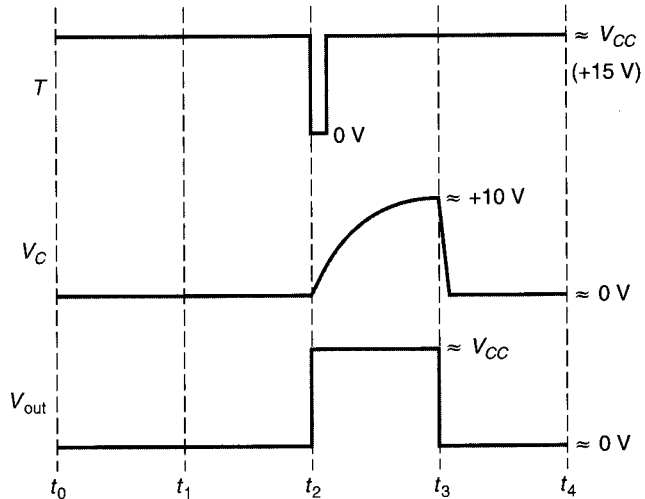

FIGURE 19.36 The 555 timer one-shot waveforms.
Now, let's look at the operation of the circuit. The appropriate waveforms are shown in Figure 19.36. To start with, we will assume that something caused the output of the flip-flop to be *high* before  $t_0$ . You will see what caused this condition in a minute. However, we need to assume this high flip-flop output to understand the waveforms at  $t_0$ .
Assuming that the output from the flip-flop is high, we know that pins 3 and 7 are both tied *low*. The low output at pin 7 ensures that the voltage across the capacitor ( $V_C$ ) is approximately 0 V, as shown in Figure 19.36. This low voltage is applied to  $C_A$  via pin 6. With a low input to  $C_A$ , its output is low. Since both inputs to the flip-flop are low, its output does not change from the *high* voltage that was already present. The circuit voltages will remain as shown until something happens to change them.
3. The low flip-flop output is inverted and pin 3 goes *high*, as shown in Figure 19.36.